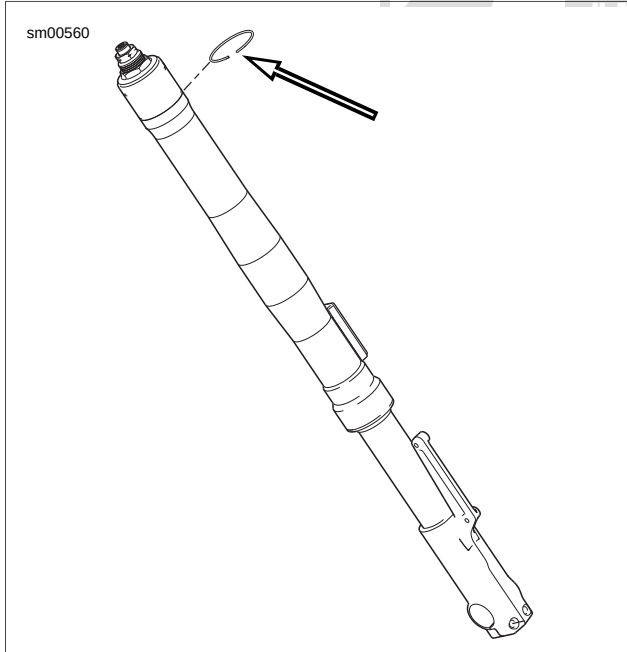

Figure 2-85. Stopper Ring
5. See Figure 2-85. Remove fork from upper fork clamp and slide the stopper ring up and over the top of the fork.